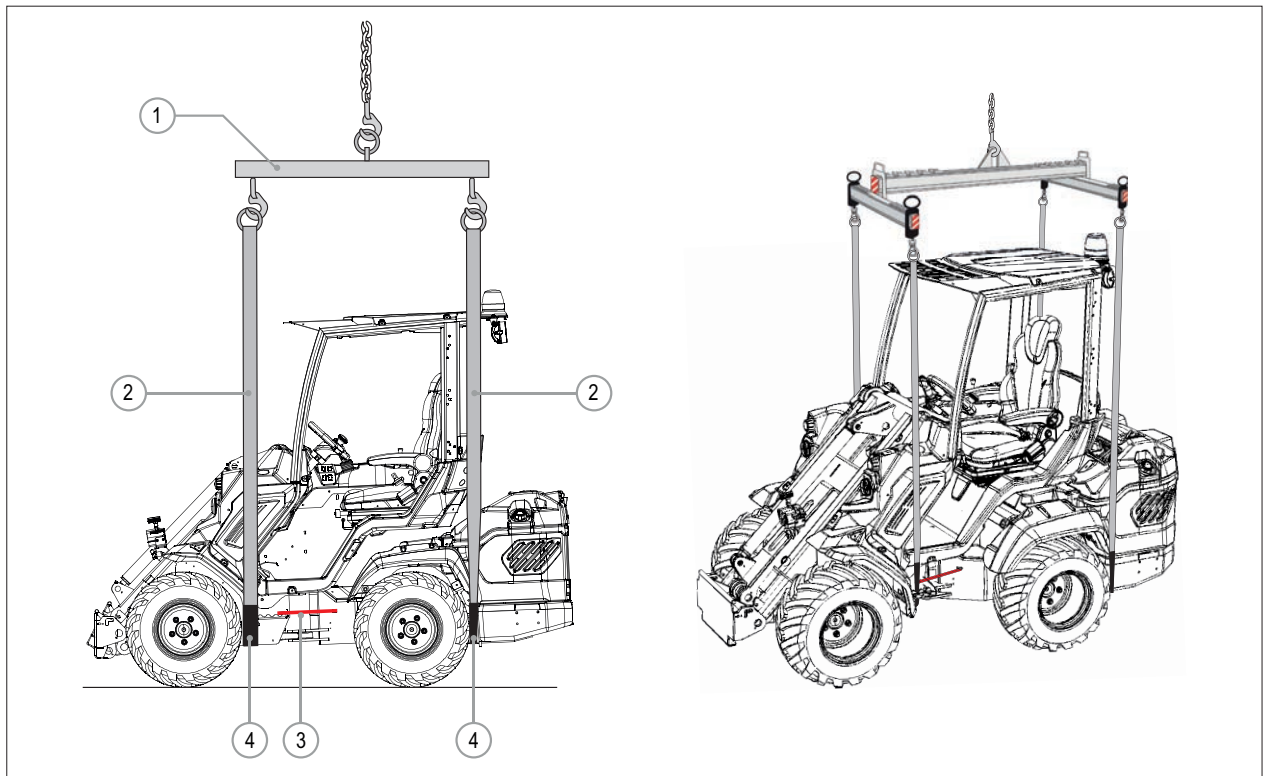

FIG. 19
- 2) Insert the steering lock bracket (**FIG. 19 - Rif. 3**) (**see par. 5.2.1**).
- 3) Use a lifting beam (**FIG. 19 - Rif. 1**) of adequate capacity and in accordance with the use.
- 4) Pass the lifting straps (**FIG. 19 - Rif. 2**) under the machine as shown in figure. Use sling antislip protector sleeves (**FIG. 19 - Rif. 4**) to avoid damages to the straps. Don't use the tie-down points of the machine to fix the straps. To prevent machine damage when lifting, make sure that the lifting straps don't touch the machine sides in any point.